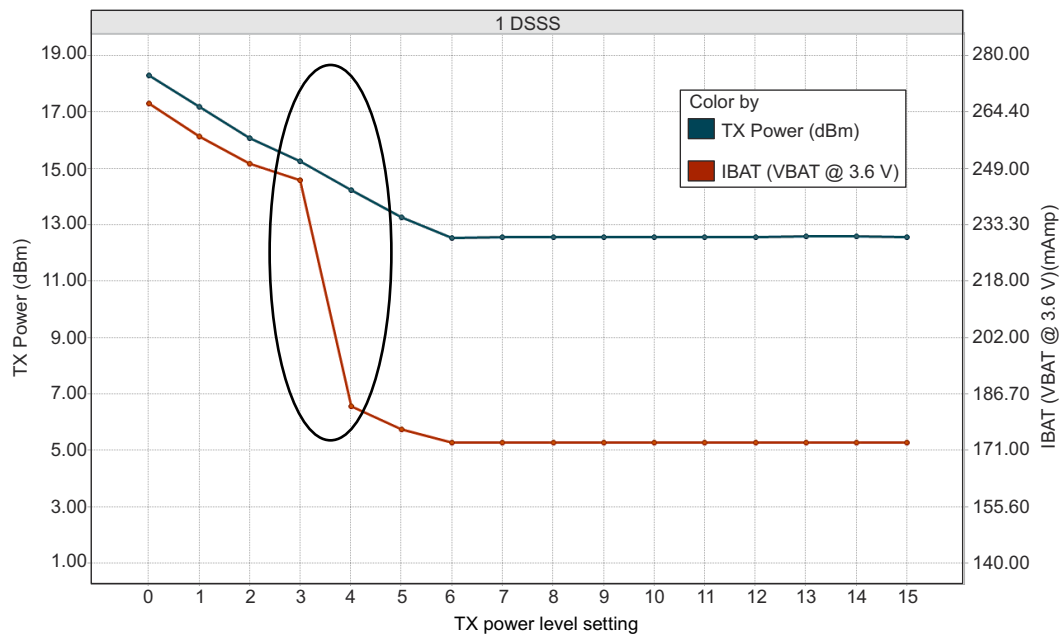

図 7-1. TX Power and IBAT vs TX Power Level Settings (1 DSSS)
- (1) TX power level = 0 implies maximum power (see Figure 7-1, Figure 7-2, and Figure 7-3). TX power level = 4 implies output power backed off approximately 4dB.
- (2) The CC3130 system is a constant power-source system. The active current numbers scale based on the V_{BAT} voltage supplied.
- (3) DTIM = 1.
- (4) The complete calibration can take up to 17mJ of energy from the battery over a time of 24ms. In default mode, calibration is performed sparingly and typically occurs when re-enabling the NWP and when the temperature has changed by more than 20°C . There are two additional calibration modes that may be used to reduce or completely eliminate the calibration event. For further details, see CC3x20, CC3x35 SimpleLink™ Wi-Fi® and Internet of Things Network Processor Programmer's Guide.
- (5) The RX current is measured with a 1Mbps throughput rate.
Figure 7-1, Figure 7-2, and Figure 7-3 show TX power and IBAT versus TX power level settings for the CC3130 device at modulations of 1 DSSS, 6 OFDM, and 54 OFDM, respectively.
In Figure 7-1, the area enclosed in the circle represents a significant reduction in current during the transition from TX power level 3 to level 4. In the case of lower range requirements (14dBm output power), TI recommends using TX power level 4 to reduce the current.